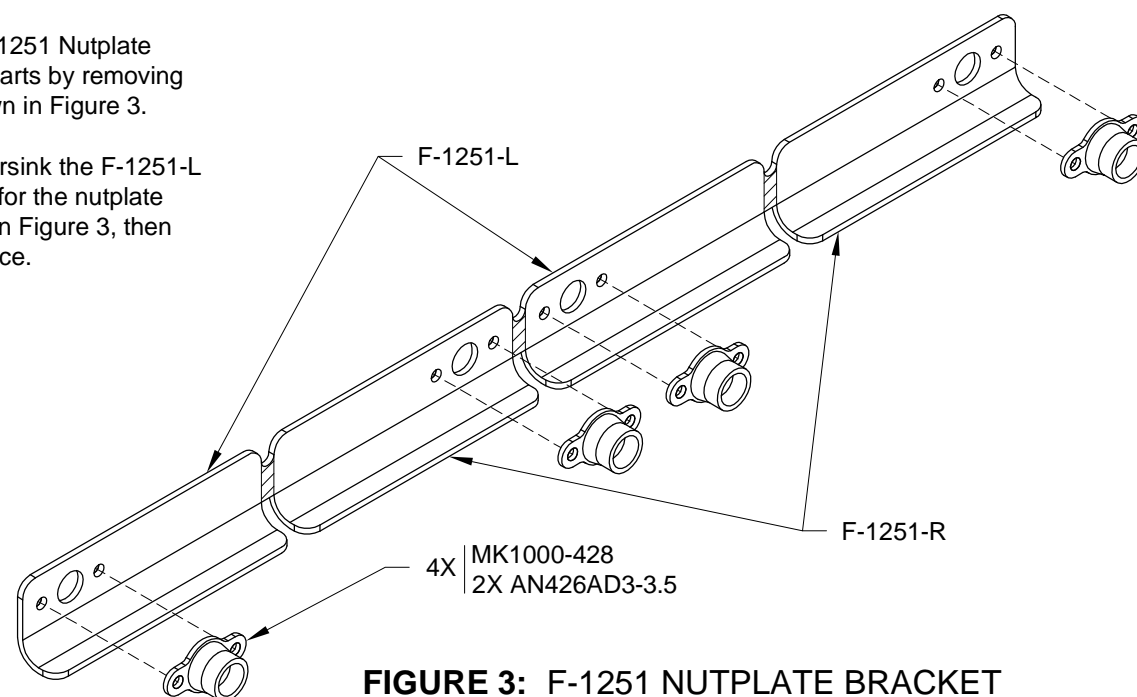

FIGURE 3: F-1251 NUTPLATE BRACKET
Step 3: Separate the F-1251 Nutplate Bracket into individual parts by removing the hatched areas shown in Figure 3.
Step 4: Machine countersink the F-1251-L & -R Nutplate Brackets for the nutplate attach rivets called out in Figure 3, then rivet the nutplates in place.